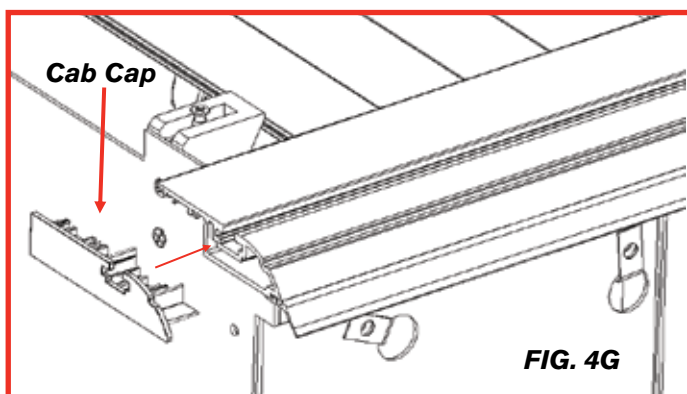
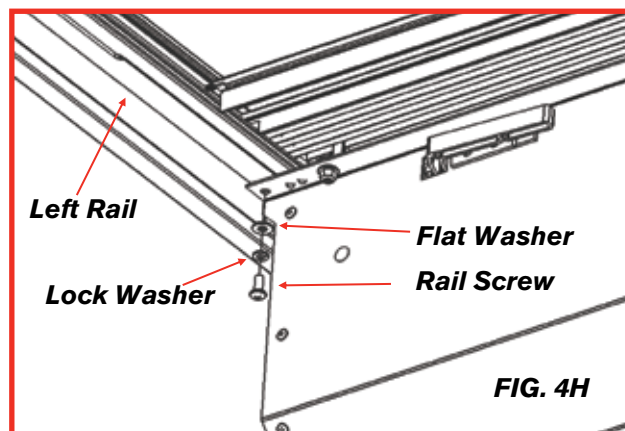

FIG. 4G
FIG. 4H
- Then you can thread the Lead Rib into the rail and push the rail forward to the end of the canister (FIG 4E & 4F). If you have difficulty threading the Lead Rib into the rail, you can gently lift up on the lead rib with your left hand, while pushing the rail forward with your right. Next, push the cab caps into the front of the rails (FIG 4G). Finally secure the rail to the canister with the Rail Screws provided with flat washer and lock washer (FIG 4H).